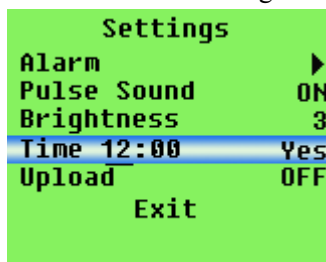

Figure 10.
- b.** When the "Start" is displayed on the menu, if the memory still has the former data in storage, the "Do you really want to recover the memory" dialog box will be displayed when pressing the "menu" button, then press the "up" button or "down" button to choose setting, then press the "menu" button to confirm setting, the dialog box will be displayed as figure 10: It needs to set the starting time for data storage by users, users can change the setting value by pressing the "up" button or "down" button, and confirm the setting value by pressing the "menu" button, the black cursor will move to next place after setting. When the black cursor moves to "Yes" (store) or "No" (don't store), press the "up" button or "down" button to choose setting, then press the "menu" button to confirm setting.